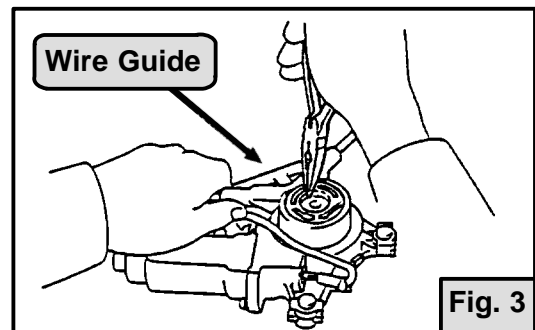

Fig. 3
2. Remove the window regulator drum and wire guide from the motor housing using needle nose pliers (See Fig. 3)